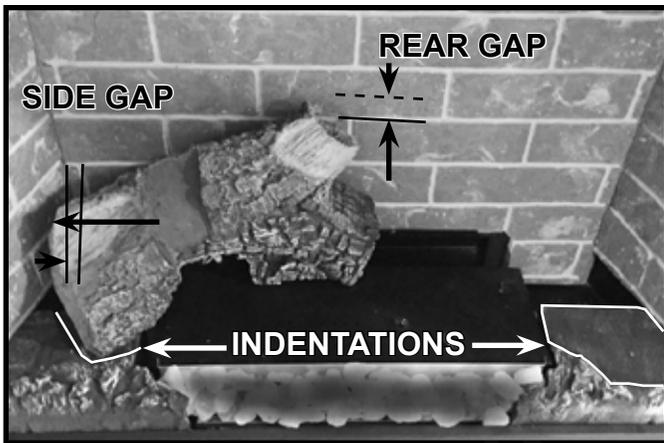

Figure 4. Rear Left Log Installed
The log pins, along with the indentations in the hearth components, will aid in correctly positioning the two rear logs and small burner log. The indentations are shown in Figure 4.
Additionally, the rear left log and rear right log are located by indentations in the right and left hearth components. See Figure 4.
1. Remove large rear left log from the packaging and install the log by locating it on the back left log pin(s). The left side of the log will reside within the indentation in the left hearth component. See Figure 4.
**Note:** SL-3X models do not utilize hearth indentations. See Figure 4.
**SL-7X and SL-9X Models:** The rear left log will be positioned to maintain about a 1/4 inch rear gap between the rear left log and the back wall refractory. There will be about a 3/4 inch side gap between the left end of the log and left panel. See Figure 4.
**SL-3X and SL-5X Models:** The rear left log will be positioned to maintain about a 1/4 inch rear gap between the rear left log and the back wall refractory. The rear left log will contact the left refractory panel (no side gap). See Figure 4.